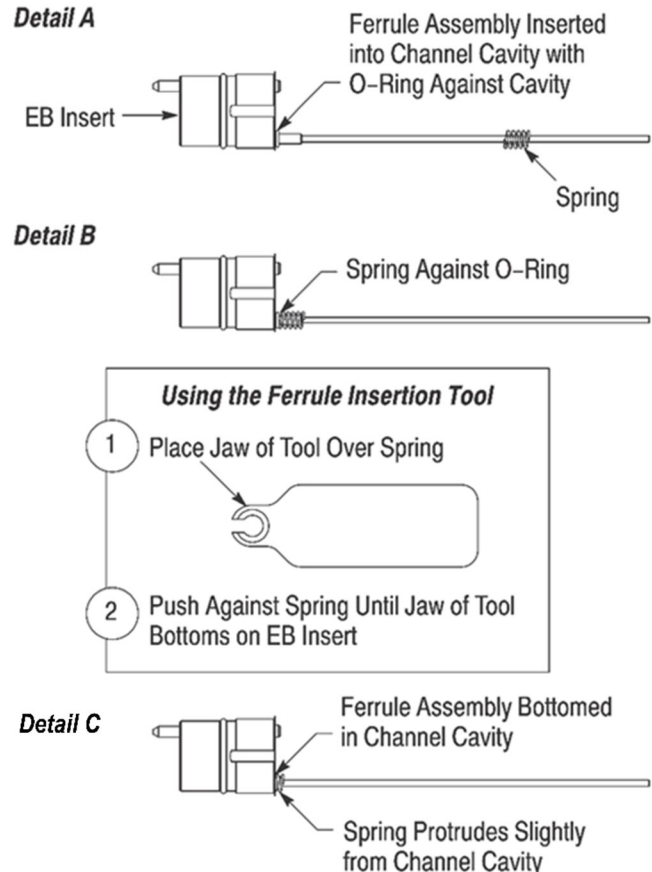

Figure 11
1. Align the end of the ferrule assembly with the appropriate channel cavity of the EB insert, and insert the ferrule assembly into the channel cavity until the O-ring is against the channel cavity. See Figure 11, Detail A. To avoid damage to the fiber, DO NOT push on the fiber to install the ferrule assembly.
2. Slide the spring over the fiber until it is against the O-ring of the ferrule assembly. See Figure 11, Detail B.
3. Using the ferrule insertion tool, push on the spring until the ferrule assembly bottoms in the channel cavity (the O-ring will be inside of the cavity, and the spring will protrude slightly from the cavity). See Figure 11, Detail C.